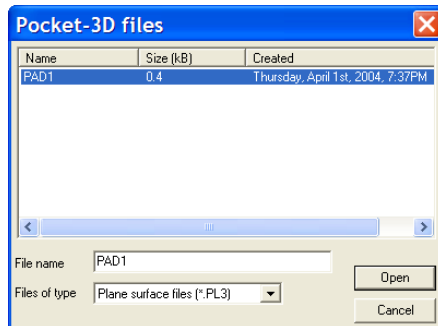

Figure 7-4. Select File and Click Open
2. On the **Pocket-3D files** dialog box, select the file type (*.pl3) and the desired file, then click **Open** (Figure 7-4). The Pocket-3D plane file opens in 3D-Office.